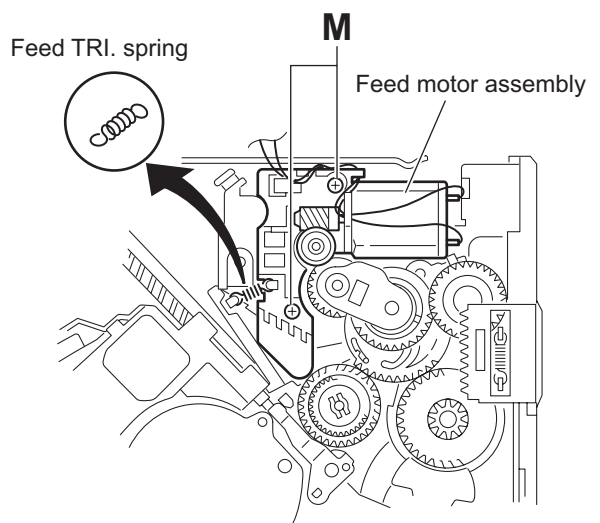

Fig.21
### 3.3.11 Removing the feed motor assembly (See Fig.21 and 22)
(See Fig.21.)
- Remove the two screws **M** attaching the feed motor assembly. (See Fig.21.)